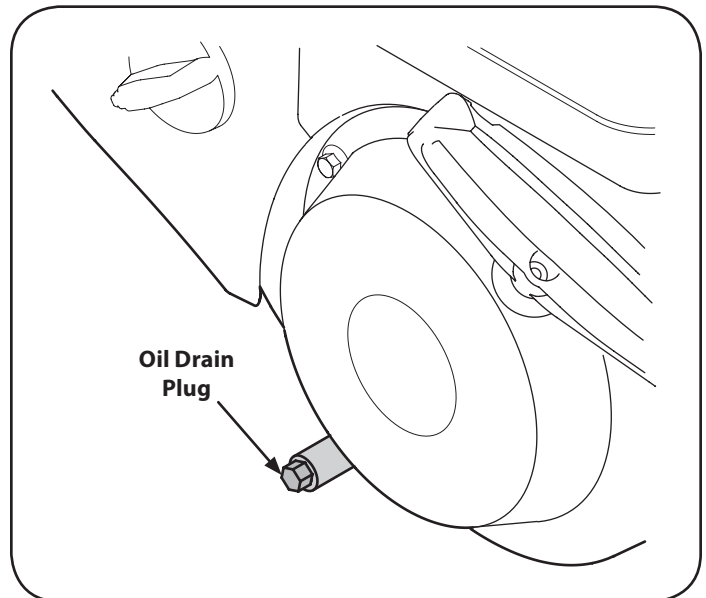

Figure 13
3. Remove oil drain plug. See Figure 13.